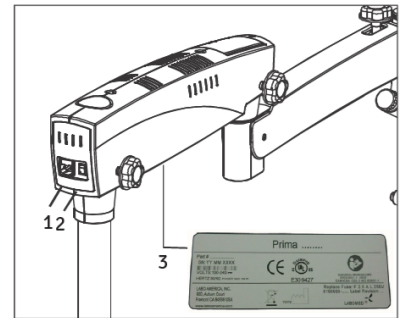

Fig. 35
1. Connect the power cable to the AC inlet socket (1) provided on the back of the swivel arm as shown in the fig.35. Switch on the power from on/off switch (2).
Note: Power supply is designed with universal input 100V - 240V AC, 50/60HZ. To plug in follow instruction on electrical label provided at bottom of the arm as shown (3) here in Fig.35.
It is located on the back of the swivel arm Ref. Fig. 35. At '1' position, microscope is on and cooling fan starts running.